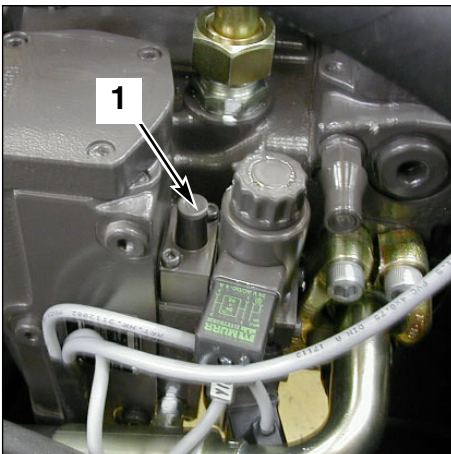

Fig. 2 Transfer movement pump
- 4- If the manometer reading indicates a sharp rise between the transfer of position from brake/Inching, loosen the screw (1 fig. 2).